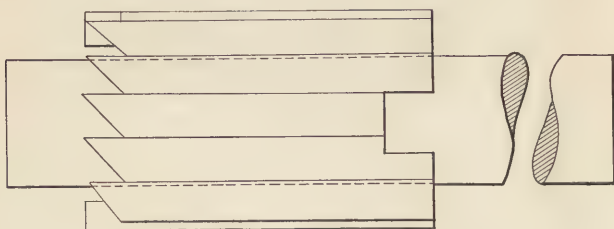

Fig. 3. Drawing the Temper of a Cutter.
**Drawing the Temper.**—I have read in books on tempering, "If you think you have the tool too hard, hold it over the fire to remove the internal strain." Now I claim that holding a tool over the fire will soften the cutting edges and leave the inside of the tool the same as before, especially if the tool happens to be a solid reamer or a tap. If it is a hollow mill or tap, and you want to "draw back," heat a bar of steel or iron  $\frac{1}{16}$  inch smaller than the hole in the mill. Run it through the mill as in Fig. 3 and turn constantly. By putting a little oil on the mill you can see when it is